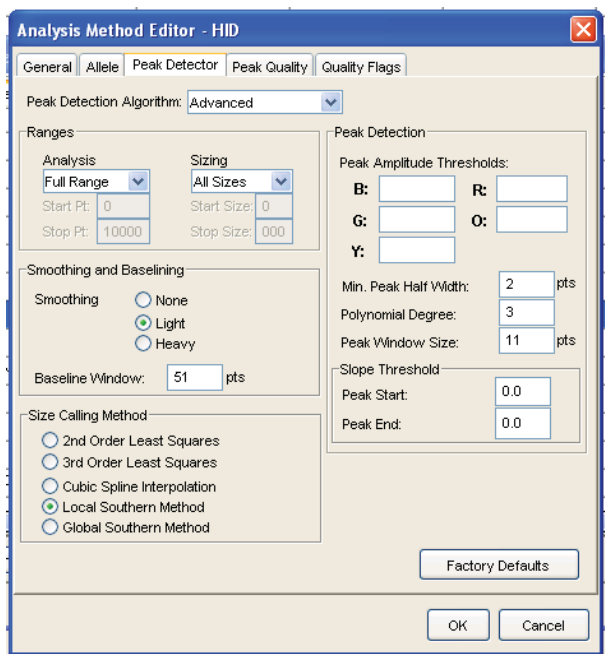

Figure 23. The GeneMapper® ID Peak Detector tab.
10. Select the Peak Detector tab (Figure 23). You will need to optimize these settings. In-house validation should be performed.